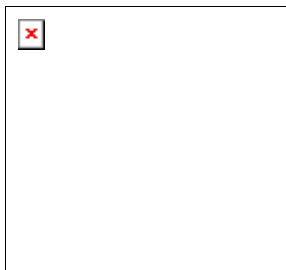

Figure 1. Fiber Optic Coupler accessory
CAUTION: When handling the Fiber Optic Coupler, avoid placing fingers or thumbs in the coupler entrance, as they will touch the flat mirror. Always lift using the handle (Figure 1 (i)).
Ensure that the fastening lever (Figure 1 (vii)) is in the open position (i.e., to the left), and place the Fiber Optic Coupler in the sample compartment.
Adjust the stabilizing screw on the accessory base (Figure 1 (vi)), to stabilize the accessory. To do this, use your fingers to screw the top screw (Figure 1, insert) clockwise until there is no side-to-side movement, then tighten the locking nut to lock the accessory into this position.
- b. Loosen the holding screws (Figure 1 (ii)) on the Fiber Optic accessory by turning them anticlockwise.
- d. Insert the two connector ends into the two key holes (Figure 1 (iv)) in the coupler accessory, ensuring that the metal pins are pointing directly upwards. (It does not matter which connector end is inserted into which slot.) Push the ends as far as they will go so that the face on the end of the connectors presses up against a metal stop.